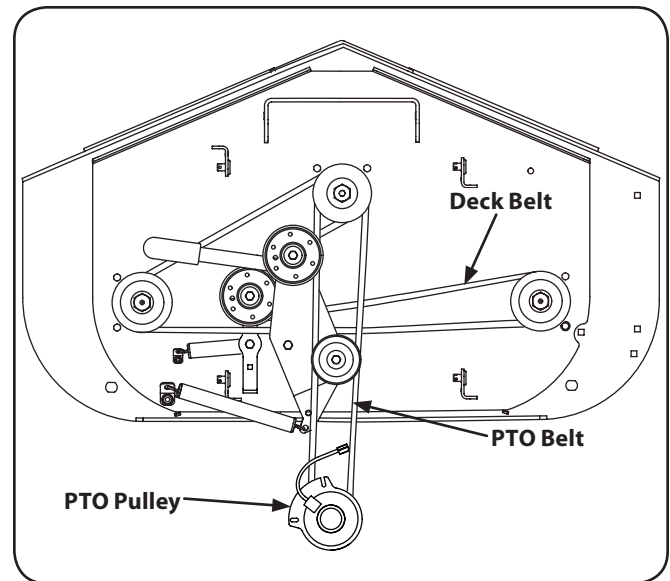

Figure 7-8
6. Route the PTO belt as shown in Fig. 7-8. After routing the belt around the PTO pulley, use a 1/2" drive in the idler pulley bracket and turn towards the back of the tractor to finish routing the belt around the idler pulley.
4. Install the new deck belt around the spindle pulleys as shown in Fig. 7-8 and reinstall the belt covers.